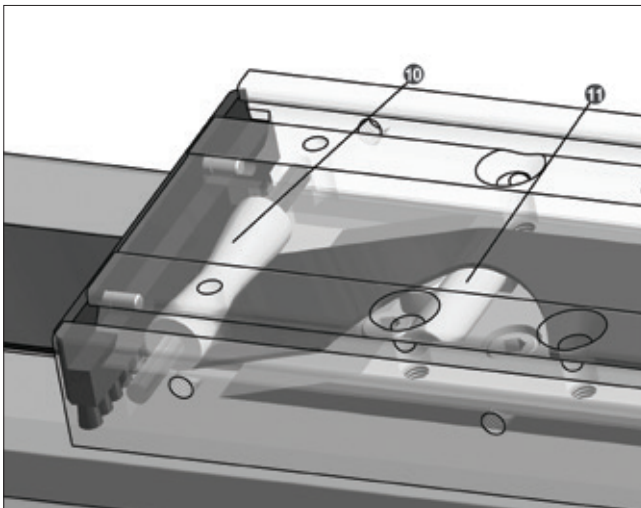

Figure 4.15 __ Cover strip deflection
4. Make sure that the guiding roller **10** in the table unit and the pressure roller **11** in the slider plate can be easily moved and are free from damages, if applicable, clean or replace them (Figure 4.15).